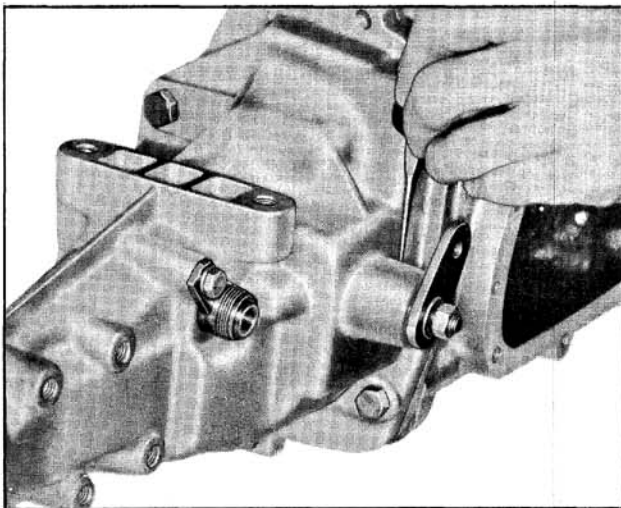

Fig. 7-57 Removing Main Drive Gear Retaining Nut
3. Remove the main drive gear retaining nut (Fig. 7-57) using Tool J-0933, after locking up transmission by shifting into two gears. The retaining nut has a left handed thread and is staked in place. This staking must be removed before removing nut.